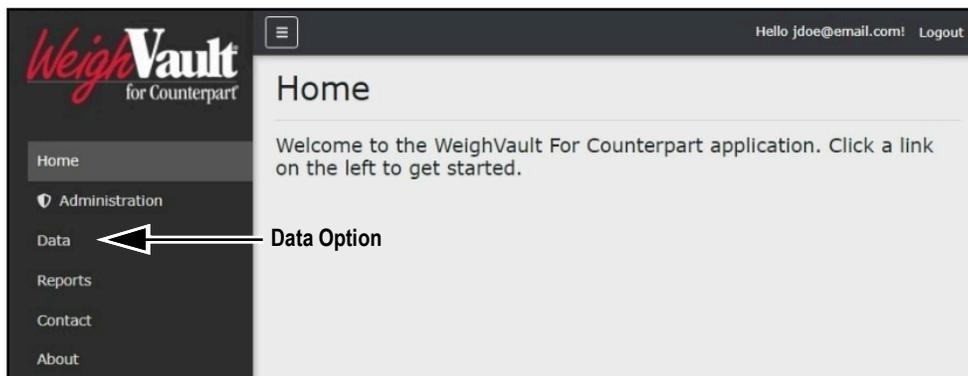

Figure 5-2. Main Menu Data Option
- Add a Part (see Figure 5.2 on page 43)